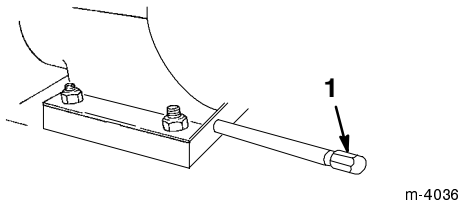

Figure 28
2. Clean the area around the oil drain plug (Fig. 28).
3. Slide an oil drain pan under the drain extension and remove the oil drain plug (Fig. 28).